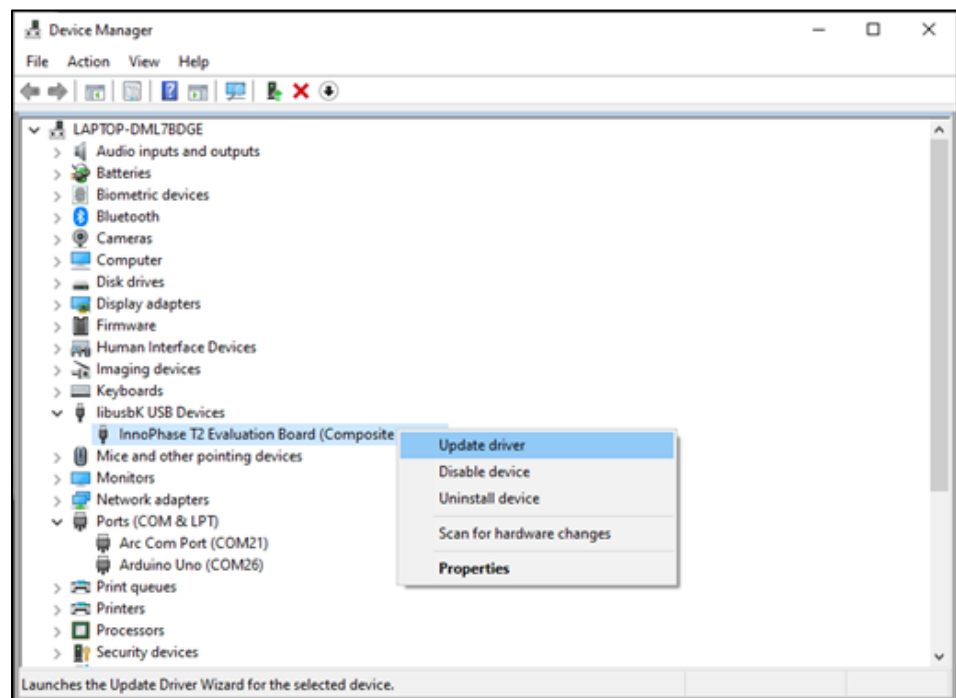

Figure 10: Device Manager
1. Open Device Manager. Expand the libusbK USB Devices and right click on the InnoPhase T2 Evaluation Board (Composite Parent). Click on Update Driver as shown in Figure 10.